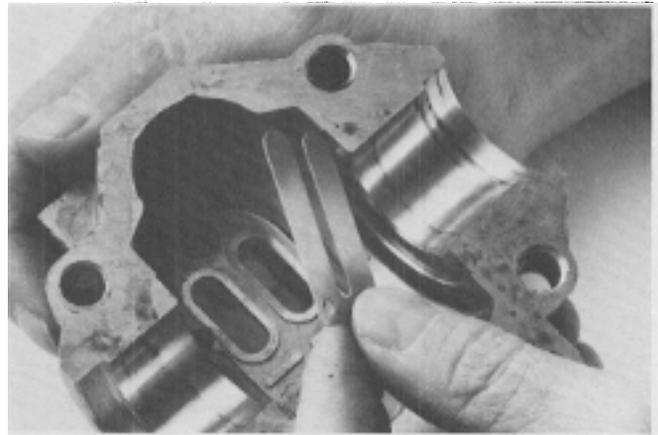

Figure 74
3. When replacing reeds, install smooth edge down (**Figure 74**) and use Loctite 271 on threads of screws.